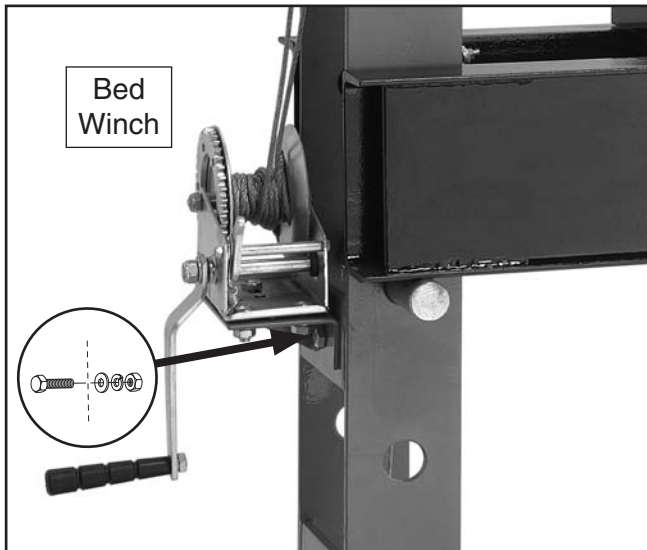

Figure 8. Winch installed.
8. Using a 19mm wrench, install the bed winch shown in **Figure 8** to the U-beam with two M12-1.75 x 35 hex bolts, and the 10mm flat washers, lock washers, and hex nuts.